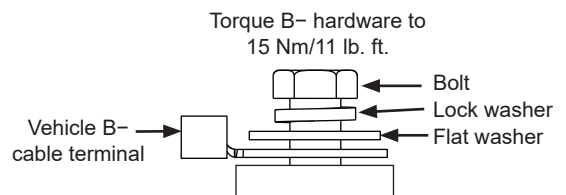

Figure 3: B- Terminal Hardware Stacking Order
8. Connect vehicle B- cable to alternator B- terminal. Install B- hardware in stacking order shown in Figure 3. Torque to 15 Nm/11 lb. ft.